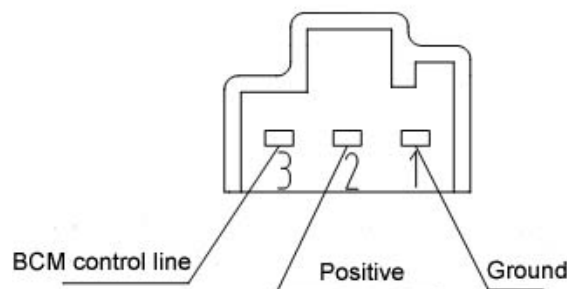

Fig. 4-88
- (1) Check the conductivity of emergency light switch: The emergency light switch (electrical air conditioning controller) is installed onto the real vehicle, and then pressed, if the switch flashes, it is normally, if not, change the switch.
- (2) Check the luminated light for emergency light switch: Connect the battery positive to terminal B5 of emergency switch, negative to terminal B15, and the luminated light should be lightened.
6. Check the rear roof light: When the switch is at OFF, terminals should be not conducted with each other, when the switch is at DOOR, terminals 2 and 3 should be conducted, when the switch is at ON, terminals 2 and 1 should be conducted, as shown in Fig. 4-88.